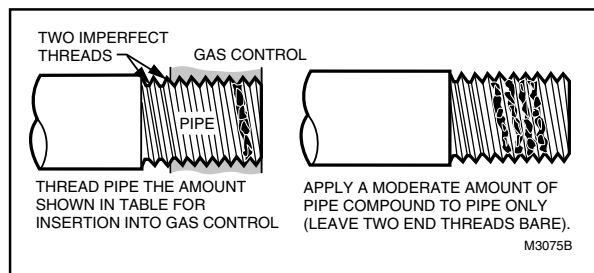

Fig. 1—Use moderate amount of pipe compound.
2. Apply moderate amount of good quality pipe compound to adapter, leaving two end threads bare. Refer to Fig. 1. On LP installation, use compound resistant to LP gas. Do NOT use Teflon tape.
4. Apply a moderate amount of good quality pipe compound (DO NOT use Teflon tape) to pipe or coupling only, leaving two end threads bare. On LP installations, use compound resistant to LP gas. Refer to Fig. 1.